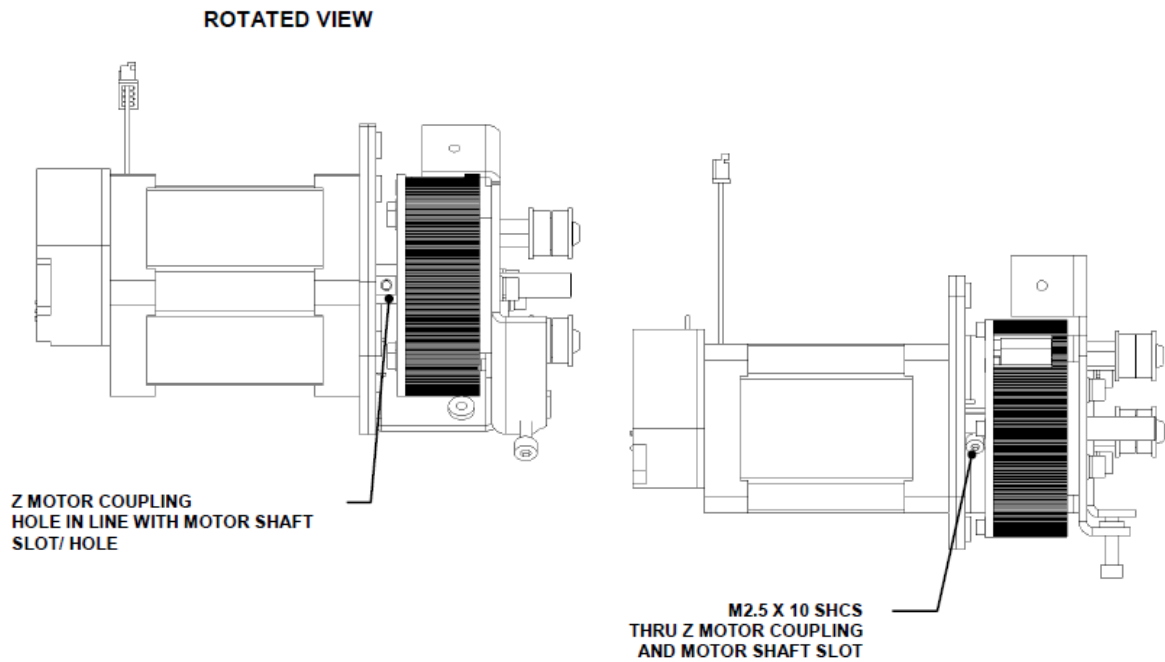

Figure Z-18: Attaching the Motor to the Spring Housing
2. Remove the Spring Assembly (Figure Z-18).